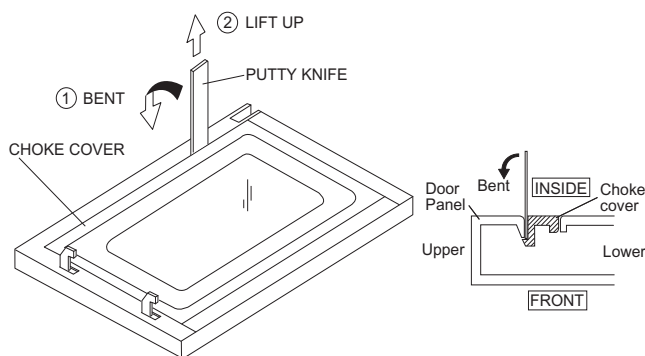

Figure C-6. Door Disassembly
2. Insert an putty knife (thickness of about 0.5mm) into the gap between the choke cover and corner portion of door panel as shown Figure C-6 to free engaging parts.